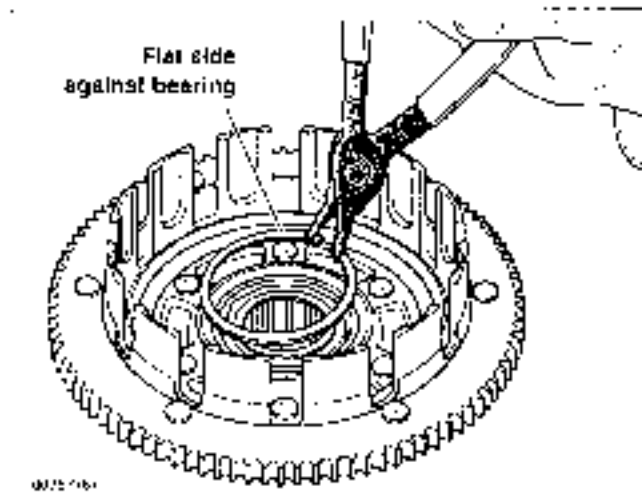

Figure 6-21. Clutch Shell Retaining Ring
- 4 See Figure 6-21. Turn clutch shell over so that the sprocket side is down. Remove retaining ring from groove in clutch shell bore.
- 2 See Figure 6-21. Install retaining ring in groove of clutch shell bore. Place flat side of ring against bearing.